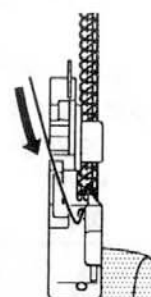
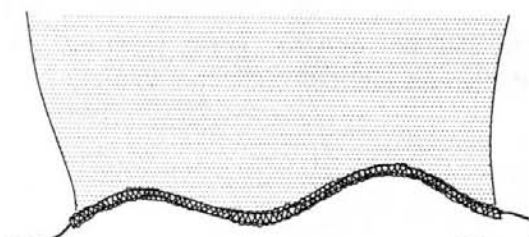

Fig. 3
Fig. 4
Loops may hang off the edge, when you sew with lightweight fabric using 3 threads (right needle only), and setting cutting width dial at 4-5(Fig.3). In such a case change the stitch finger(A) to (B) to get neat stitching(Fig.4)
For inside curves, guide fabric gently with trimming line of the fabric under the right front of the presser foot (or a little to the left), applying pressure at point A in the direction of the arrow with your left hand, and at the same time applying a little opposite pressure at point B with your right hand. Fig.3.
For outside curves place under the presser foot in a similar manner but applying the pressure in the opposite directions. Fig. 4.
FOR JOINING SIDE SEAMS, pass the cord through the rear hole, ensuring it is positioned to the right needle thread. (Fig.3)
FOR MAKING WAVED HEM WITH GUT (Fig.4), pass the gut through the rear hole and start ROLLED HEM (See page 16).